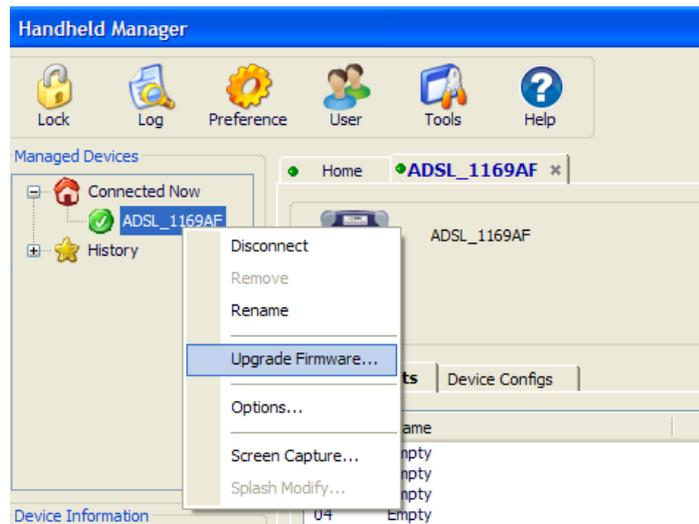

Figure 15 ADSL Upgrade Firmware
- 3 In the left pane, under “Connected Now”, right click on the unit to be upgraded and then click **Upgrade Firmware**, as shown in Figure 15.